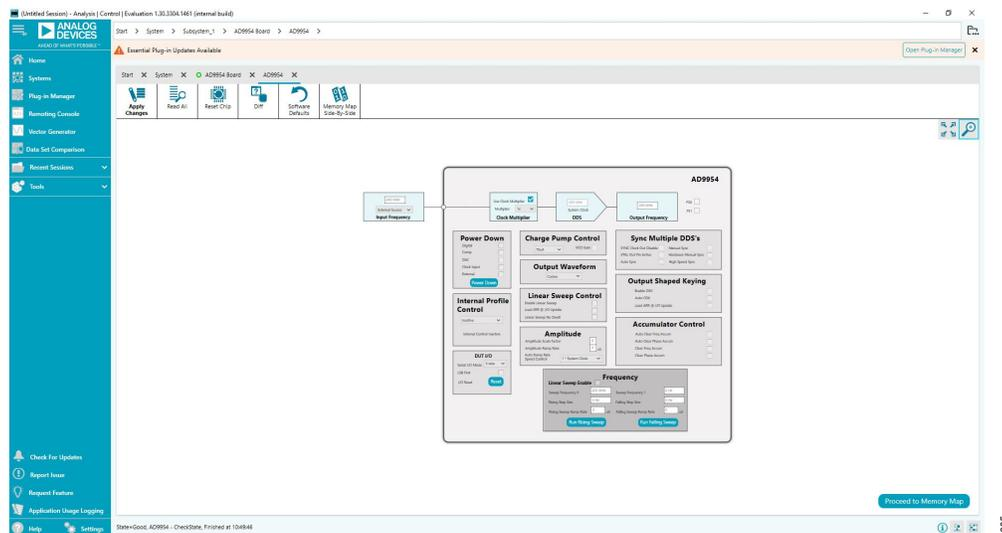

Figure 5. ACE Software Front Panel
3. Double-click the **AD9954** icon that appears on the board GUI to open the main control window shown in Figure 5.
The main controls are shown in the Figure 5. To modify any controls, take the following steps:
2. Modify any **ACE Software** front panel settings as required (see Figure 5).
3. Click **APPLY CHANGES** to load the modified settings to the AD9954, which then performs the write sequence. If the **System Clock** frequency and **Output Frequency** selected are outside of the operational range, an error message will appear within the GUI. Specific blocks can be powered down by setting the corresponding power-down check boxes within the **Power Down** section shown in Figure 5.
The **Input Frequency** section shown in Figure 5 allows users to configure the reference clock.
The **Clock Multiplier** section shown in Figure 5 allows users to select the phase-locked loop (PLL) multiplication factor ($4\times$ to $20\times$) by which to scale the input frequency. The default setting of this dropdown menu is **x1**, indicating that the **Clock Multiplier** circuitry is bypassed and that the input frequency and crystal input are piped directly to the DDS core.
The **System Clock** section shown in Figure 5 displays the operating frequency of the DDS core (system). The value within this box is derived from the value entered and selected in the **Input Frequency** section and the **Multiplier** selected in the **Clock Multiplier** section by the user.
To customize the channel output configuration, go to the **Output Frequency** section shown in Figure 5. By default, the channel output operates in single tone mode.
Users can go to the **Power Down** section shown in Figure 5 to power down any of the following:
To control the current settings on the charge pump, go to the Charge Pump Control section shown in Figure 5. The default value of the charge pump current is **75 μ A**. Other dropdown menu options included the following: **100 μ A**, **125 μ A**, or **150 μ A**.
In the **Output Waveform** section shown in Figure 5, users can select either a **Cosine** or a **Sine** function for the angle-to-amplitude conversion. The default setting is **Cosine**.
Use the **Linear Sweep Control** section shown in Figure 5 to control the linear sweep features.
Use the **Amplitude** section in Figure 5 to set the **Amplitude Scale Factor**, **Amplitude Ramp Rate**, and **Auto Ramp Rate Speed Control**.
Use the **Frequency** section of Figure 5 to setup the slope of the linear sweep.
The SYNC_CLK pin is active by default within the **Sync Multiple DDS's** section of see Figure 5. When the **SYNC Clock Out Disable** feature is enabled (checked off), the SYNC_CLK pin assumes a static Logic 0 state to minimize the noise generated by the digital circuitry. The synchronization circuitry remains active internally to maintain the device timing.
The shaped on-off keying function is enabled or disabled using the **Output Shaped Keying** section shown in Figure 5 by enabling (checking off) **Enable OSK**. The OSK function allows users to control the ramp-up time and ramp-down time when turning the DAC on or off. This function is primarily used in burst transmissions of digital data to reduce the adverse spectral impact of short, abrupt bursts of data.
In the **Accumulator Control** section of Figure 5, the following options are available:
The **DUT I/O** section shown in Figure 5 controls the I/O configuration for the device. Click the **Reset** button of the **I/O Reset** to send an I/O reset to the corresponding serial port state machine. Select the **LSB First** box to change the data format to LSB first from the default setting of MSB first. Use the **Serial I/O Mode** dropdown menu to select the desired I/O mode of operation: **2 wire** or **3 wire** (default).